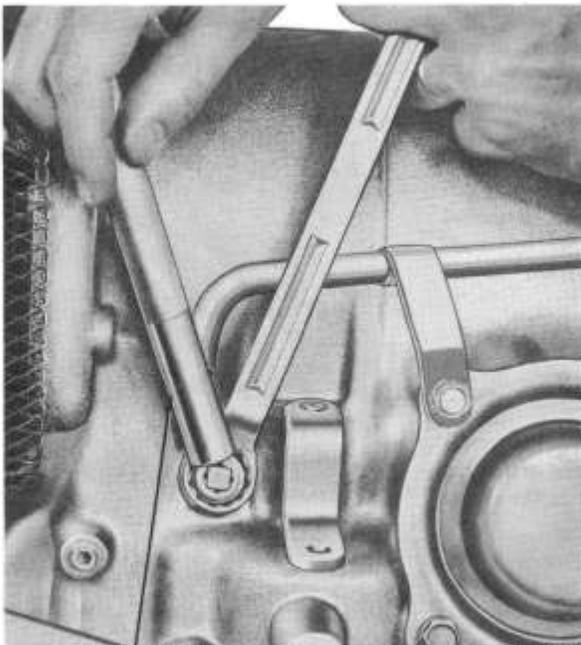

FIG. 6—Low Band Adjustment
The low band adjusting screw is threaded through the left front side of the case (Fig. 6).
2. Tighten the adjusting screw with the tool shown in Fig. 6 until the tool is felt and heard to click. This tool is a pre-set torque wrench which clicks and overruns when torque on the screw reaches 10 ft-lbs.